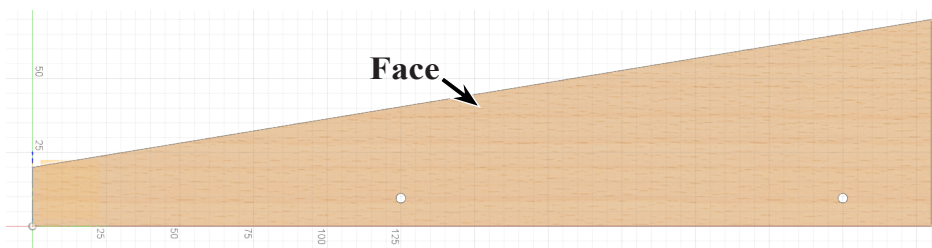

Fig. 4
Step 1. On the Solid tab **SOLID** click **Create Sketch**  in the sketch area of toolbar and click **side face of body**, **Fig. 4**.